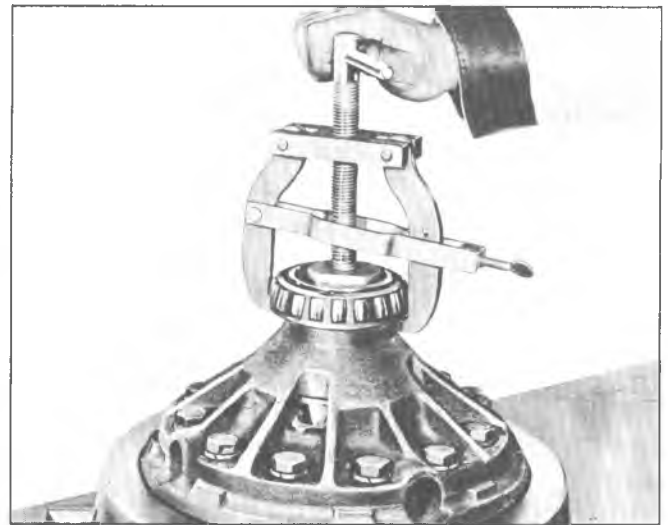

Fig. 4E--Differential Bearing Removal
1. Install bearing puller J-8107 onto one side bearing, with puller screw centered on pilot plug as shown in figure 4E. Be sure to install puller fingers into notches of case, in order to pull on inner race only.